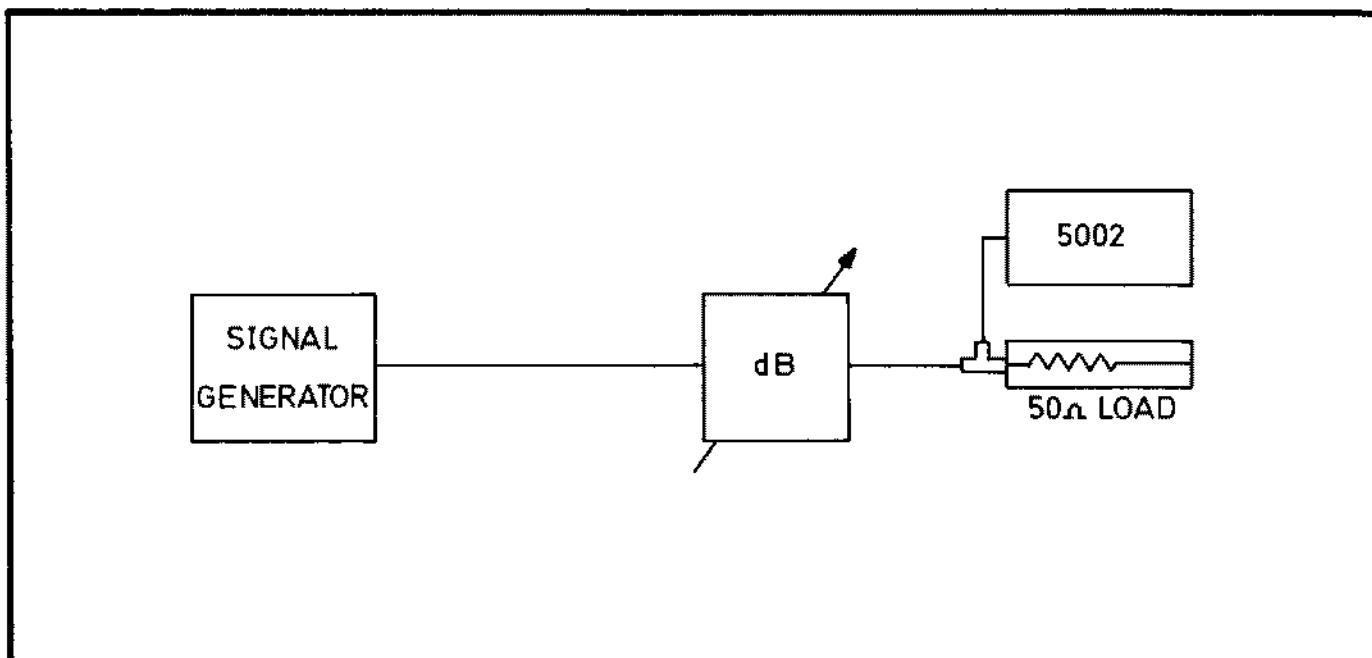

Fig. 6.12 35 MHz Frequency Response Check
- 6.5.18.2 Connect the test equipment as shown in Fig. 6.12.